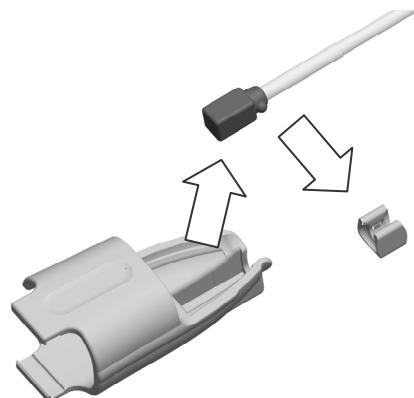

Fig. 7 How to release the Magnetic sensor from the Magnetic
- 2) Release the magnetic sensor from the magnetic sensor attachment as shown in Fig. 7 and release the spacer from the magnetic sensor.